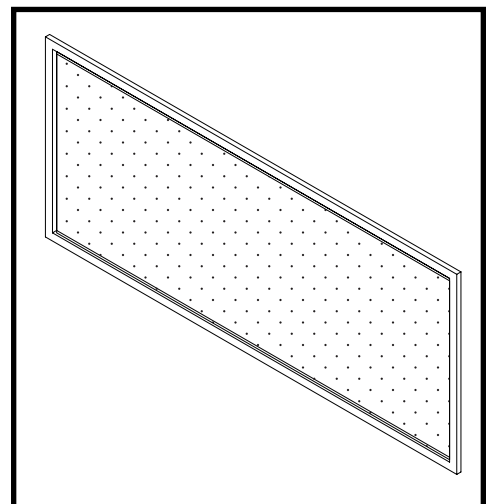

Figure 75: TCWS38 Safety barrier screen.
6. Attach the magnetic safety barrier screen (Figure 75) to the outer-most door frame.